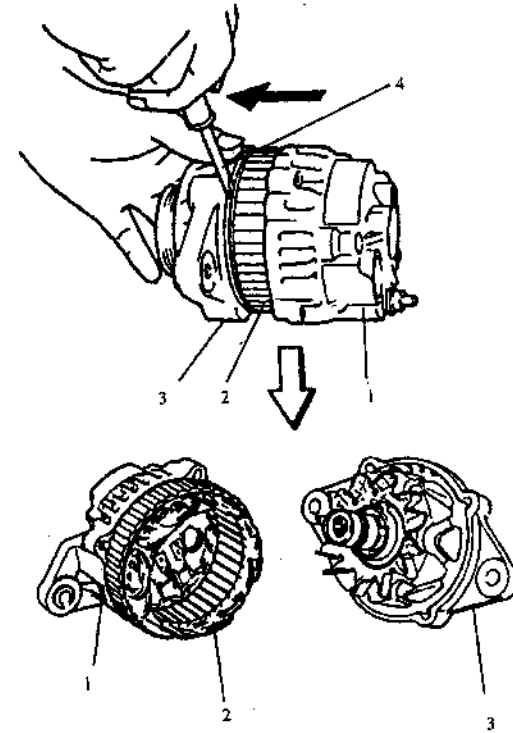

Figure 6.1-7
(3) Insert a stick into between stator core and front casing, to separate the front and rear casings of the alternator. See Figure 6.1-7.